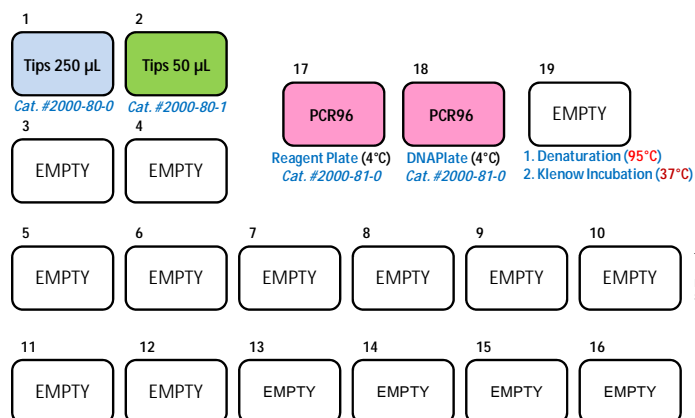

Figure 1. Deck layout for 96 labeling reactions.
- Ensure that all labware is placed correctly on the ArrayPrep® System (Figure 1). Place a container for used tips next to position 10 (Figure 2).